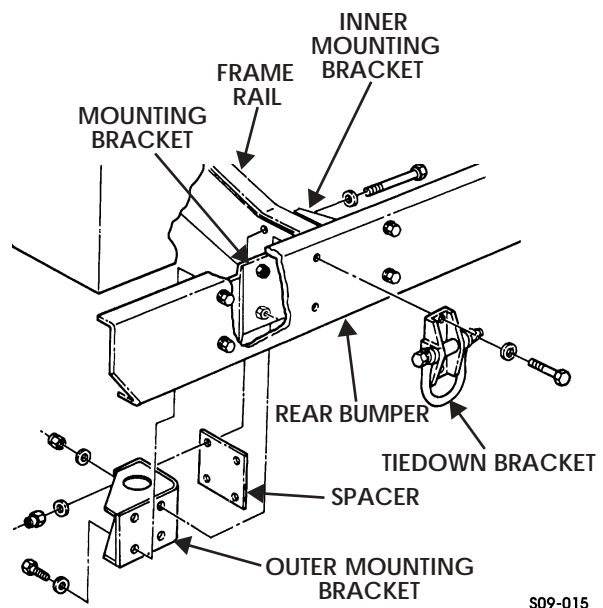

Figure 9-27: Rear Bumper Mounting Bracket
2. Remove two locknuts, washers, capscrews, and washers securing tiedown bracket and outer mounting bracket to mounting bracket and rear bumper. Discard locknuts (Figure 9-27).
1. Install spacer and outer mounting bracket on frame rail and inner mounting bracket with four washers, capscrews, washers, and locknuts. Do not tighten locknuts (Figure 9-27).